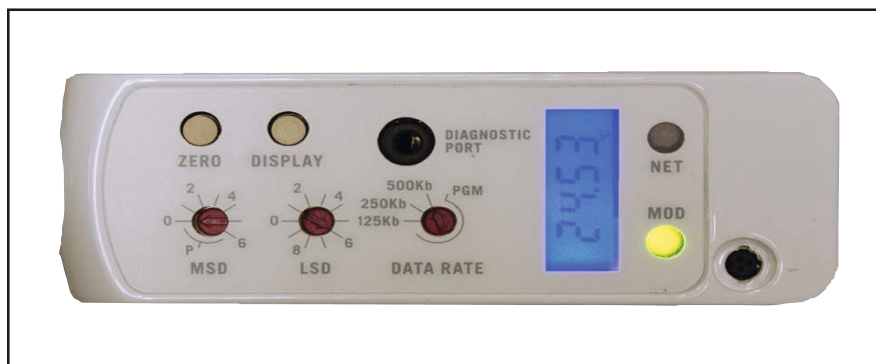

Figure 2-9 Display Set to %FS
2. Looking at the top of the GF100/GF120xHT/GF101 Series, press the “Display” button until the LCD display label is “%FS” as shown in Figure 2-9. Three button depressions from the MACID label display.